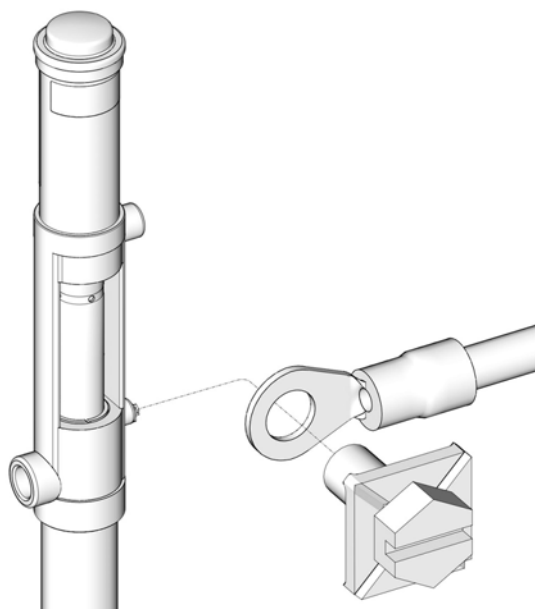

FIG. 2
**Pump:** use ground wire and clamp (supplied) as shown in FIG. 2.
**To ground the pump,** remove the ground screw (Z) and insert through eye of the ring terminal at the end of the ground wire (Y). Fasten the ground screw back onto the pump and tighten securely. Connect the other end of the wire to a true earth ground. To order a ground wire and clamp, order Part No. 222011.